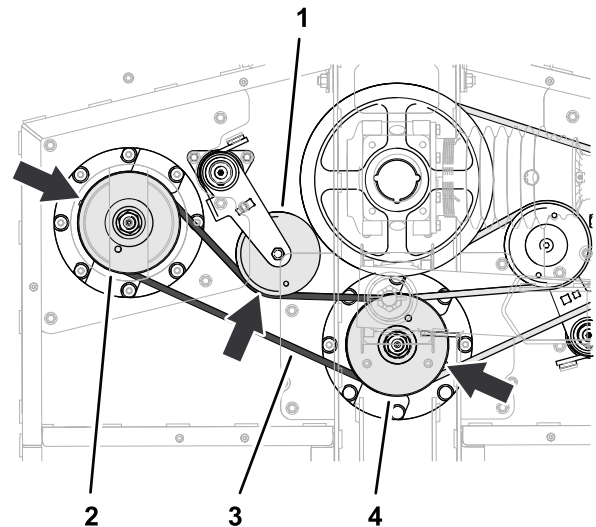

Figure 67
1. Route the short belt around the left-spindle pulley and the lower groove of the center-spindle pulley (Figure 67).
2. Use a breaker bar or similar tool to rotate the belt tensioner counterclockwise and slip the belt over the tensioner pulley (Figure 67).